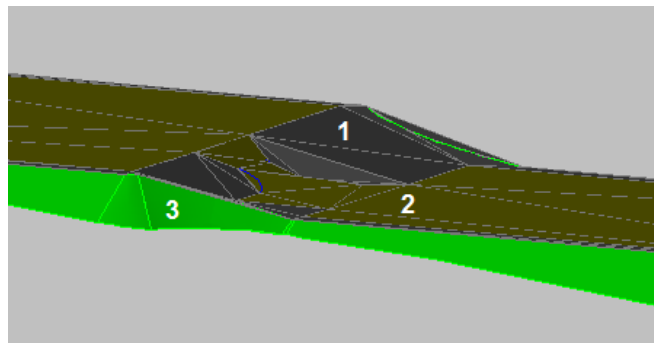

Figure 24: 3D grading
Figure 24 shows the same grading in a 3D shaded view. The grey area (1) is the infill grading that represents the shoulder, the gold area (2) is the pad infill grading, and the green (3) is the slope grading to the surface.